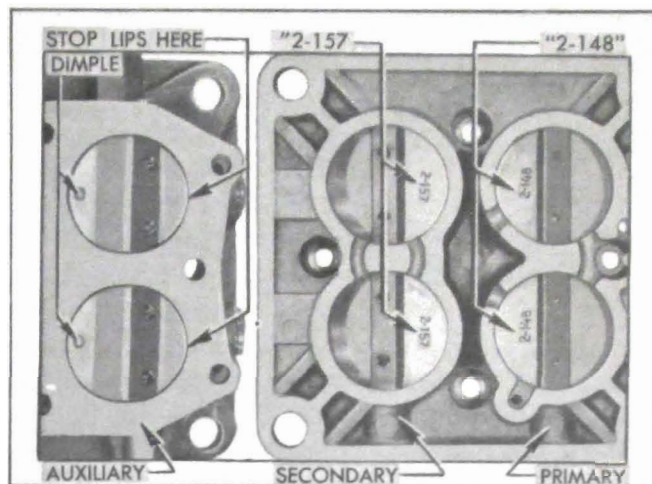

Figure 3-50—Installation of Throttle Valves
2. Place secondary throttle shaft in body with return spring, give spring one turn wind-up, then install valves with *new* screws. Stamped numbers on valves must be downward and toward middle of flange. Shift the valves as required to provide the closest possible fit in barrels in closed position, then tighten screws securely. See figure 3-50. Support screw heads on suitable steel block and stake opposite ends of screws.
Position the valve so the clearances along the sides are fairly uniform and so that the stop lips have good bearing on edge of barrels. See figure 3-50.
5. Install throttle valves on shaft with *new* screws, placing the stamped number on valves downward and toward middle of flange. Back off throttle lever adjustment screw, fully close and center both valves in barrels of body flange, then hold valves firmly while tightening screws. See figure 3-50.